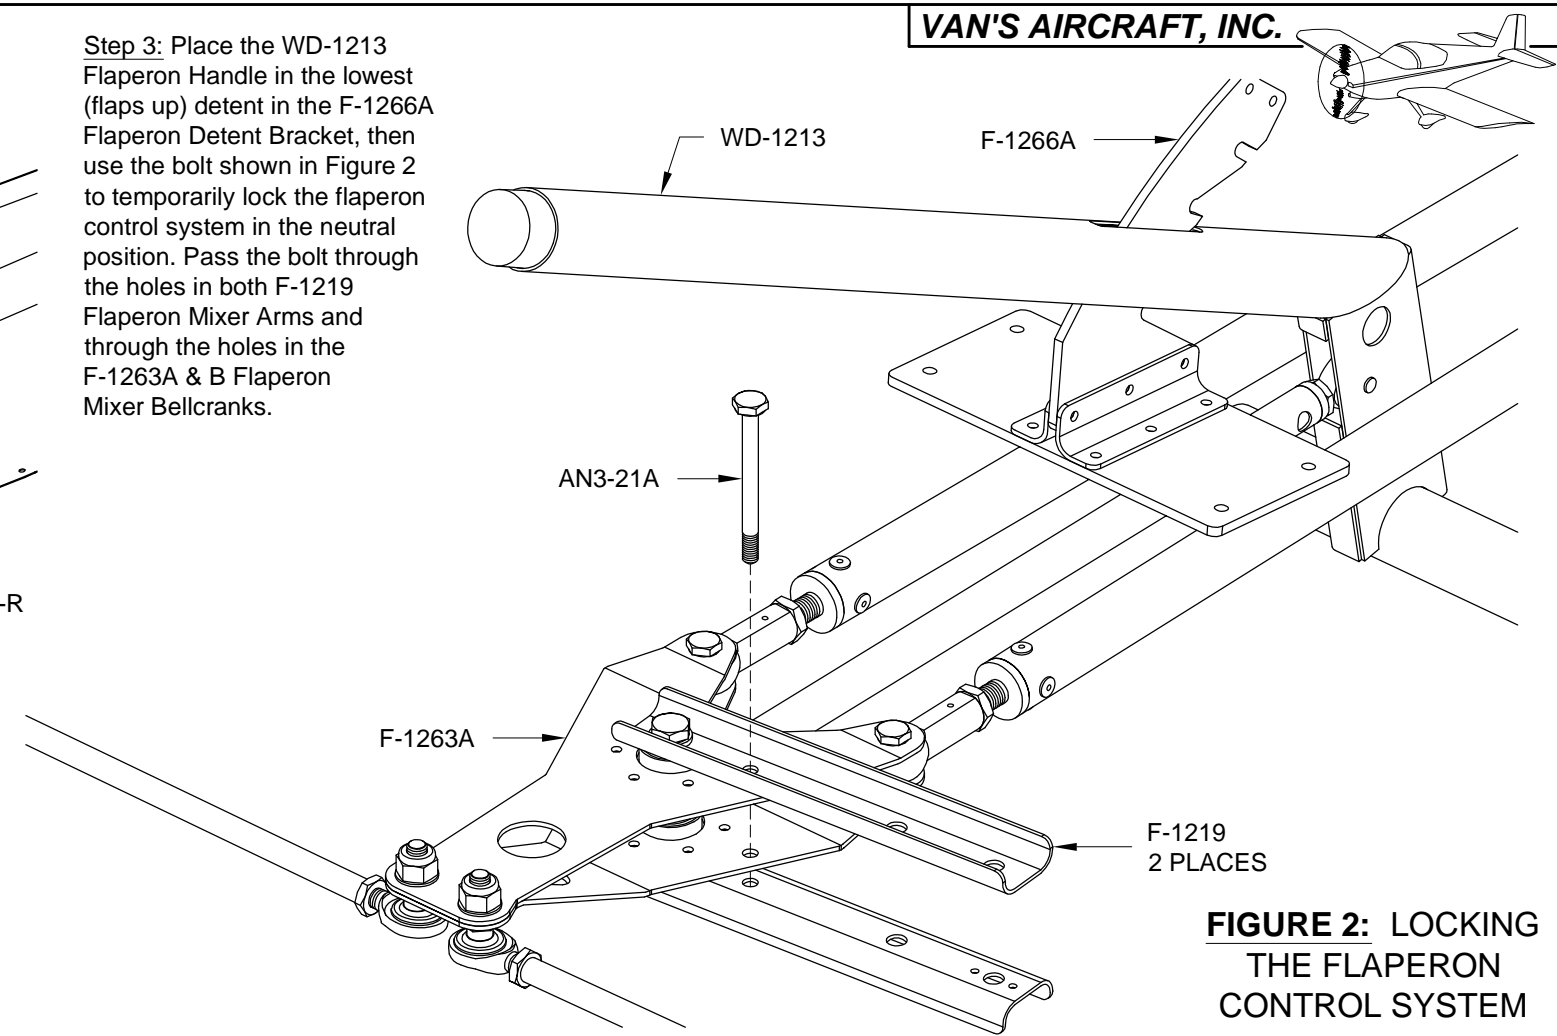

FIGURE 2: LOCKING THE FLAPERON CONTROL SYSTEM
Step 3: Place the WD-1213 Flaperon Handle in the lowest (flaps up) detent in the F-1266A Flaperon Detent Bracket, then use the bolt shown in Figure 2 to temporarily lock the flaperon control system in the neutral position. Pass the bolt through the holes in both F-1219 Flaperon Mixer Arms and through the holes in the F-1263A & B Flaperon Mixer Bellcranks.